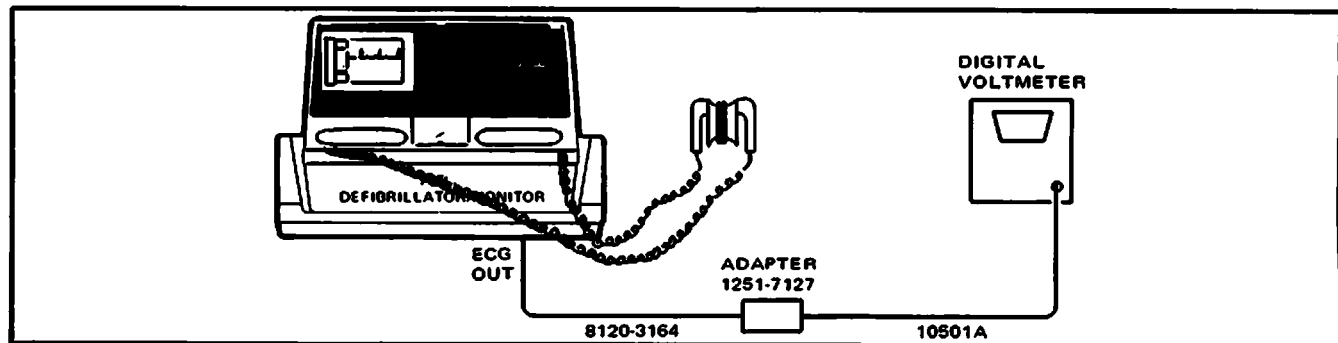

Figure 3-14. ECG Amplifier Baseline Offset (Paddles).
1. Remove the cable from the ECG input connector and connect the test equipment as shown in Figure 3-14.